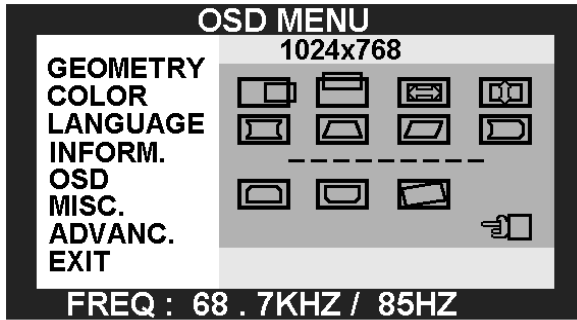

Figure 4: OSD main menu
Press the 'ONE TOUCH OSD' button (B) to obtain the OSD main menu. A menu like the one shown in Figure 4 will pop up.